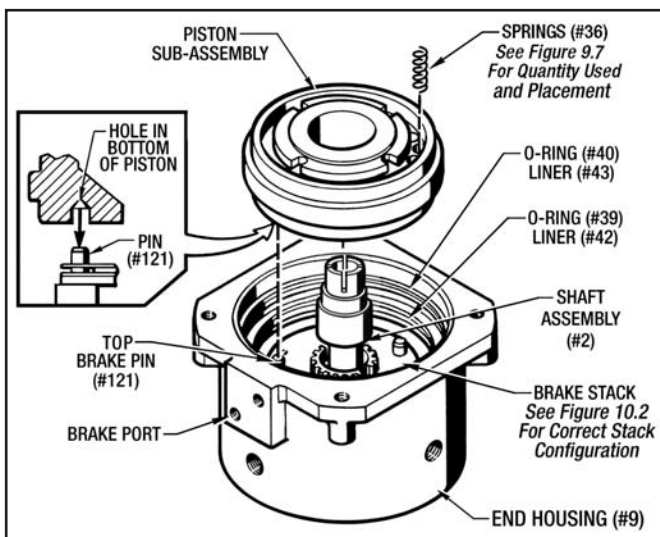

Figure 9.6 - Installing Piston Sub-Assembly
2. Carefully place the Piston Sub-Assembly into the End Housing (#9). Make sure the hole in the bottom surface of the Piston (#3) is aligned with the top Pin (#121) as shown in Figure 9.6.
Make sure the Brake Port is open to atmosphere and not plugged as shown in Figure 9.6.